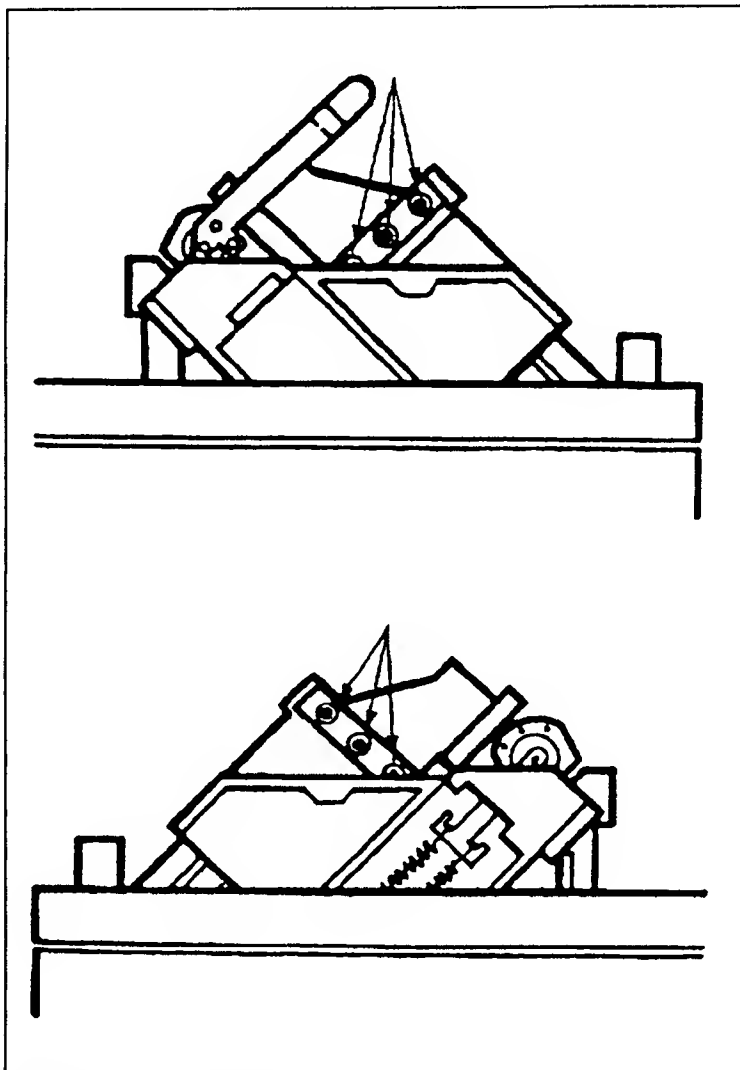

Figure 6-20. Printbar Flexure Screws
- h. Remove the three screws (3mm socket cap screws) and the clamp block plates at both ends of the printbar (see Figure 6-20).
- g. Install the printbar back onto the printer with the three screws at each end (see Figure 6-20). Use Loctite 242 on the screws.